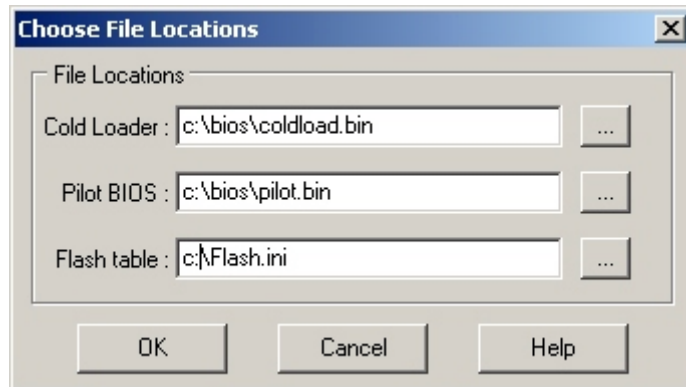

Figure 2-3. Choose File Locations Window.
5. On the Choose File Locations window (Figure 2-3), fill in the fields with Cold Loader as coldload.bin and Pilot BIOS as pilot.bin. Press the OK button